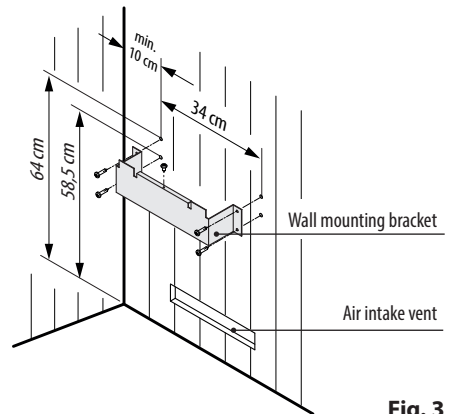

Fig. 3
- Center the wall-mounting bracket over the air intake vent as shown in the Fig. 3 and screw it onto cabin wall with the spax screws from the delivery scope.